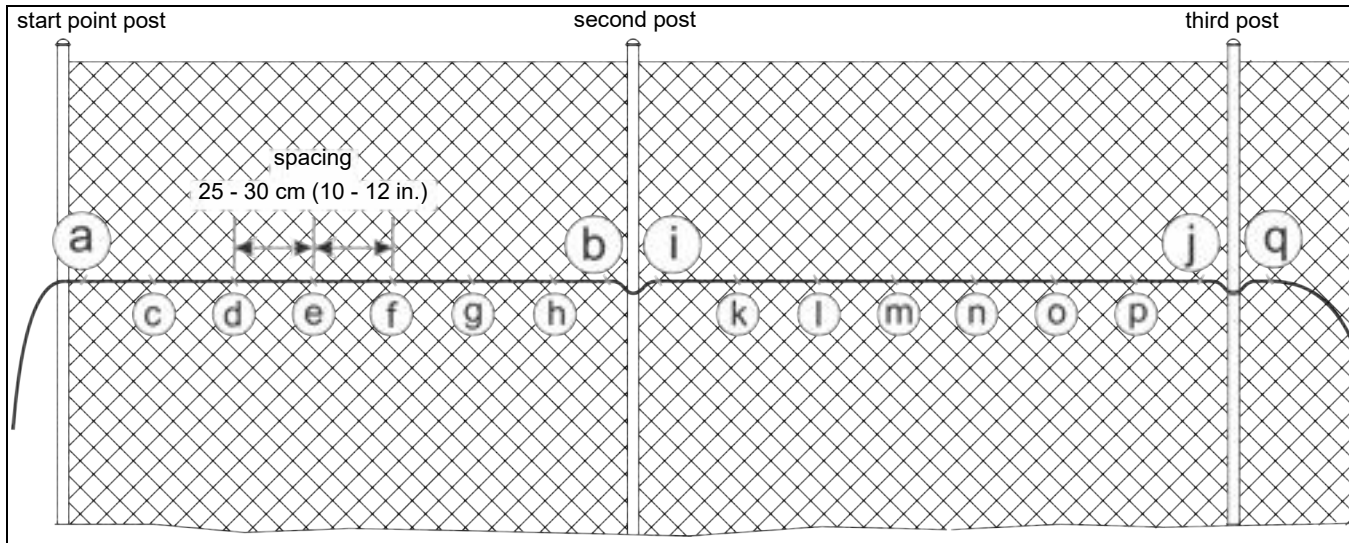

Figure 29: Installation procedure diagram
2. Beginning at the start point, attach the sensor cable to the fence fabric at point a (see Figure 29). Leave enough extra sensor cable at this point to install a splice kit, or to connect the sensor cable to the processor (refer to the site plan for the processor's installation location).